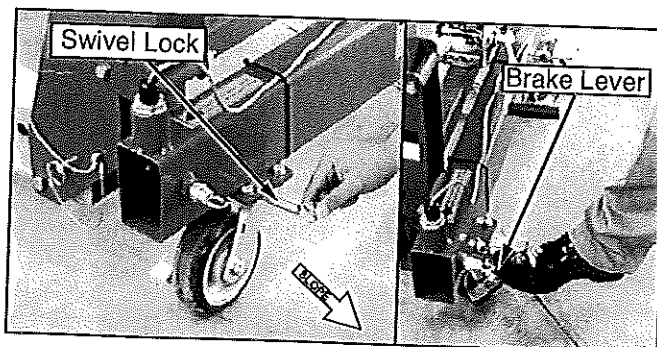

Figure 10: Locking the Casters
**ALWAYS** lock caster brakes when elevating the Auditorium Kit (see Figure 10).
**LOCK** caster swivels perpendicular to the slope when assembling and using Auditorium Kit on a sloped surface (see Figure 10).
4. All four casters are locked perpendicular to the slope of the floor, and brakes set (fig. 10).